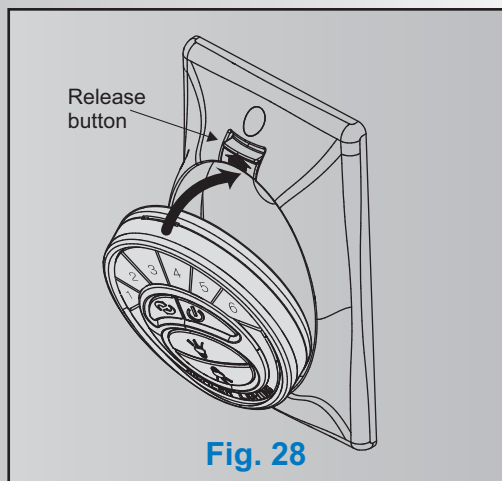

Fig. 28
1. Insert the transmitter into the wall plate by inserting the bottom of the transmitter first and then press the top of the transmitter into the pocket. The transmitter will fully function from this location or you can remove the transmitter and use as a "Hand Held" device. (Fig. 28)